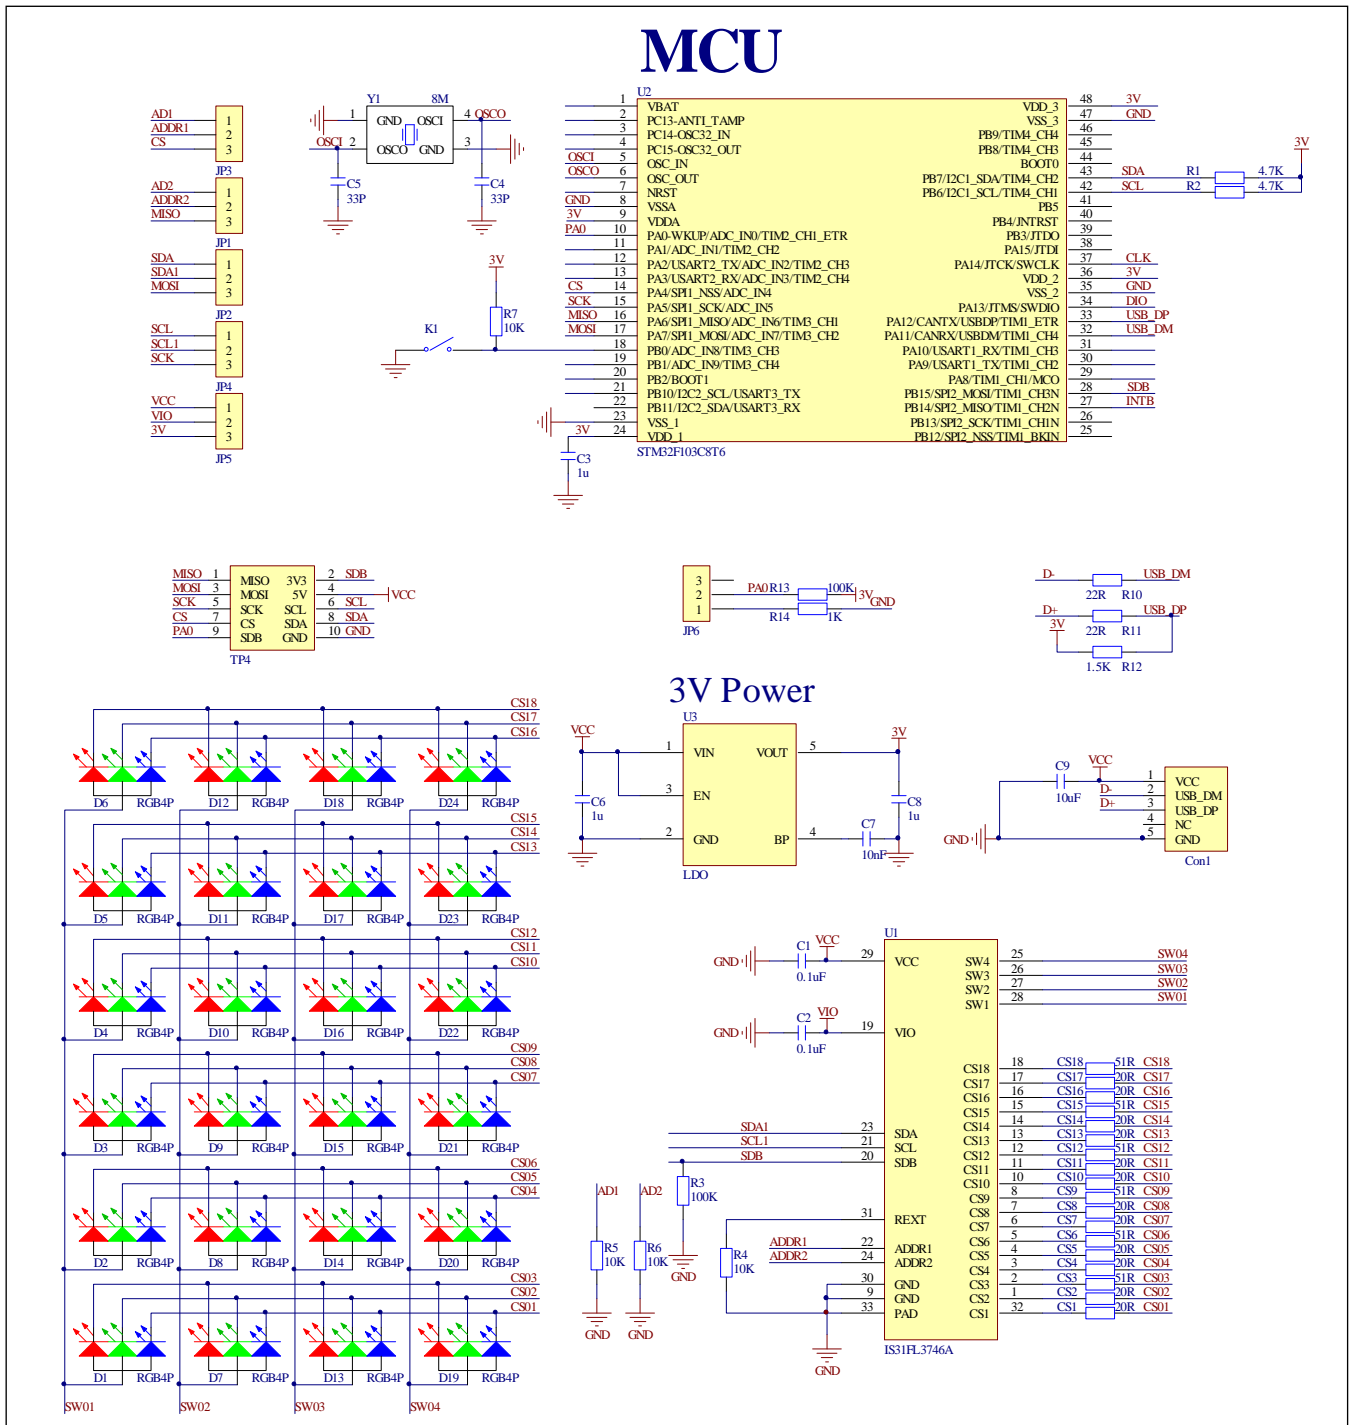

Figure 3: IS31FL3746A Application Schematic
*Bill of Materials, refer to Figure 3 above.*